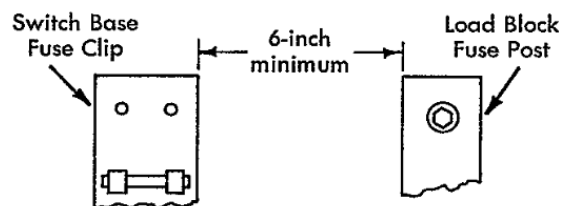

Figure 3.
2. Position new load block over holes marked "600A J". Use existing screws and washers to fasten new block to backplate. There must be a 6-inch minimum space between switch base fuse clip and load block fuse post Figure 3. NOTE: When using new backplate, position the new load block over holes marked "5".